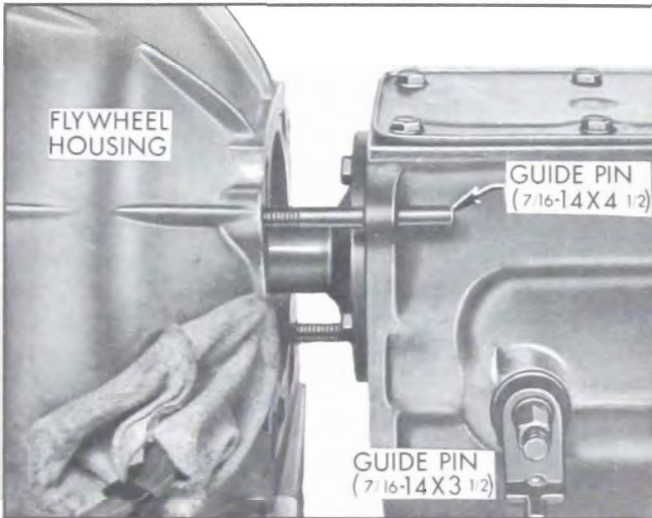

Figure 4-11—Transmission Guide Pins
9. Remove upper left transmission to flywheel housing bolt and install a 7/16-14 x 4-1/2 inch guide pin; remove lower right bolt and install a 7/16-14 x 3-1/2 inch guide pin. See Figure 4-11.
2. Make certain that front face of transmission case and rear face of flywheel housing are absolutely clean. Install a 7/16-14 x 4-1/2 inch guide pin in upper left flywheel housing hole; install a 7/16-14 x 3-1/2 inch guide pin in lower right hole. See Figure 4-11.